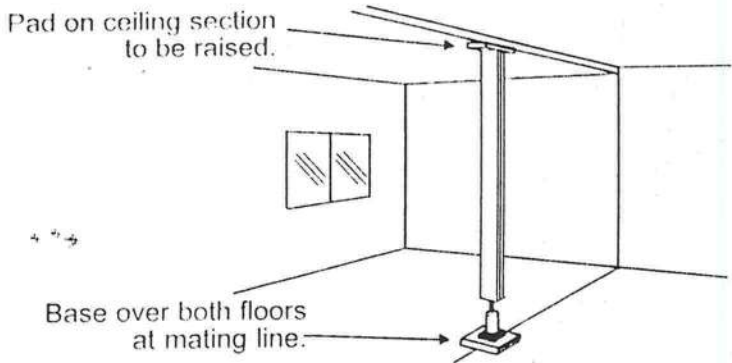

FIG. 5-8
7. Prior to interconnecting the ridge beam halves, examine the ridge beam ends. Should there be a slight misalignment it can be eliminated by placing a jack under the low side of main beam on one half and use the jack to raise the beam. The alignment can be held by properly bolting or lag screwing the beam halves together. See Fig. 5-8.